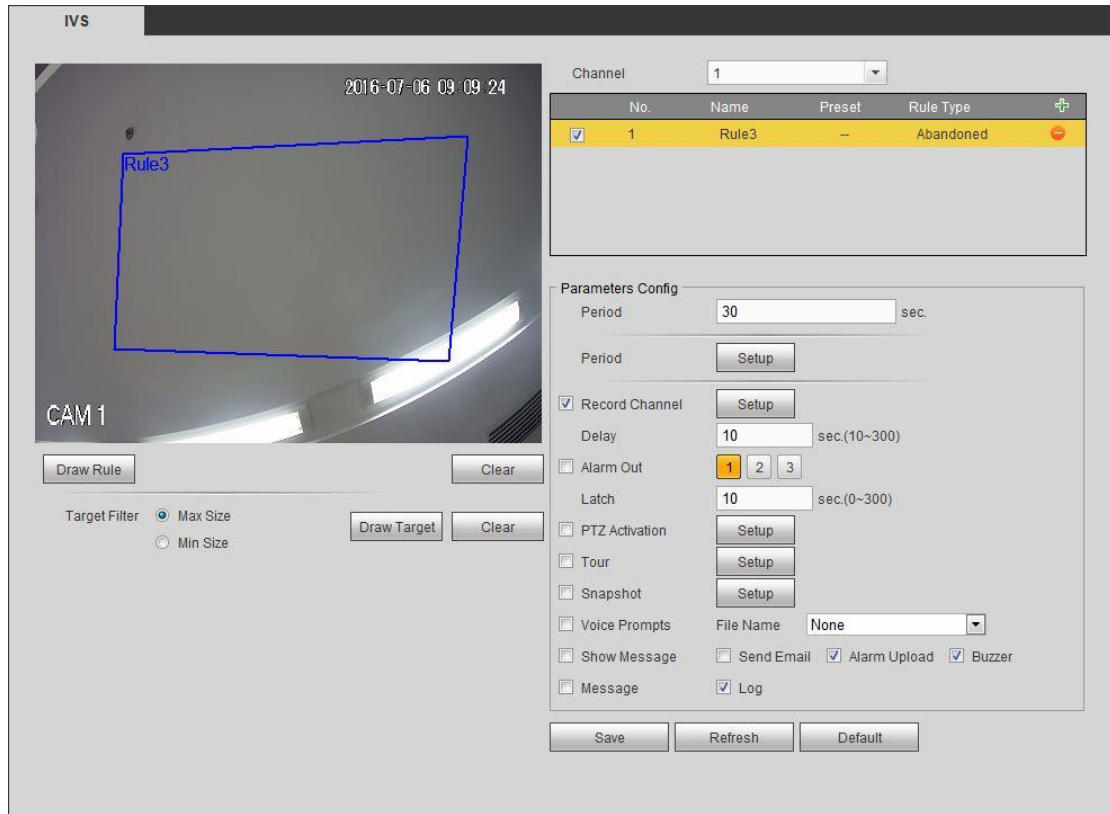

Figure 4-78
Step 3 Click Draw rule to draw the rule. See Figure 4-78. Left click mouse to draw a line, until you draw a rectangle, you can right click mouse.